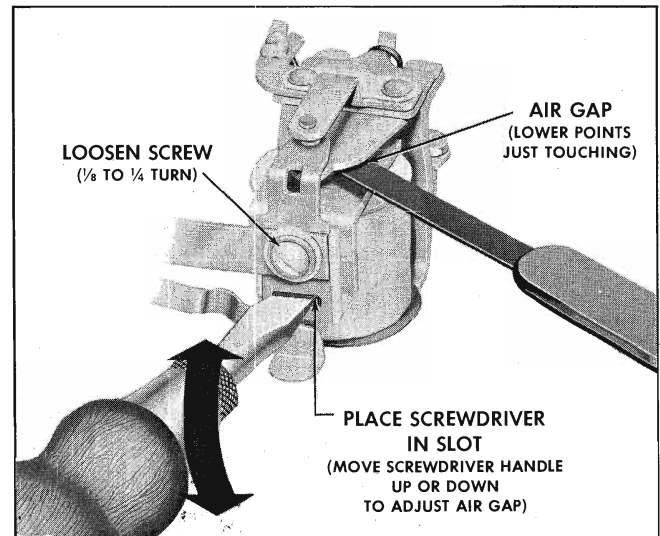

Fig. 11-35 Voltage Regulator Air Gap Check and Adjustment
1. With lower contacts touching, measure air gap between armature and winding core as shown in Fig. 11-35.
2. Adjust by loosening contact support bracket screw approximately $\frac{1}{8}$ to $\frac{1}{4}$ turn. Place a screwdriver in slot in contact support bracket and into the moulded insulator as shown in Fig. 11-35. Raise on the handle of the screwdriver to increase air gap and lower the handle of the screwdriver to lower air gap.